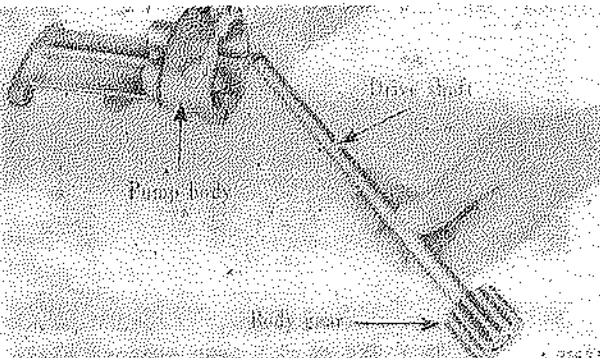

Fig. 36
6. Remove body gear and drive shaft from oil pump body (Fig. 36).